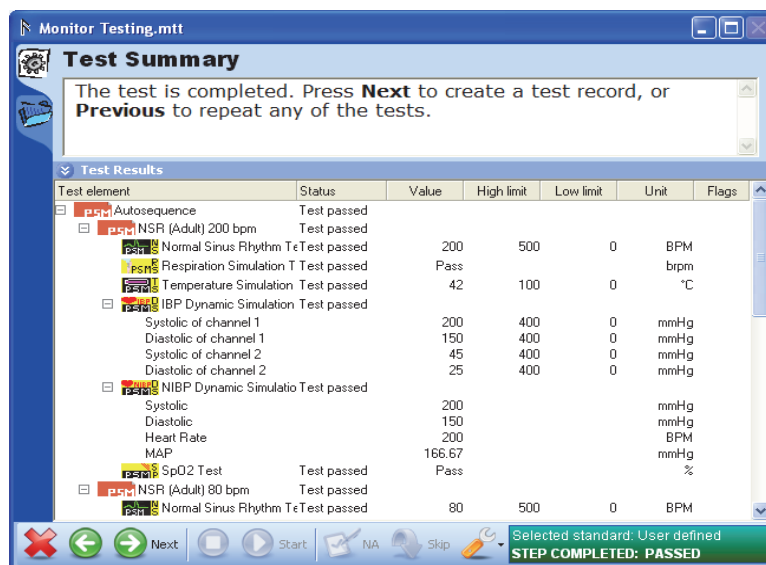

Figure 3-26. Test Summary of Stepped Autosequence
8. Click  to show the test summary window shown in Figure 3-26.